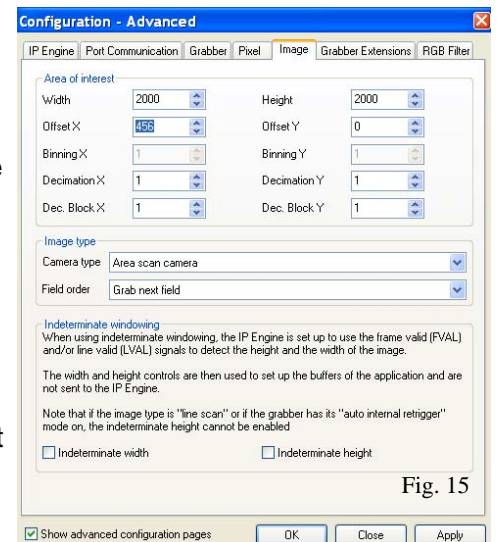

Fig. 15
- Open “Image” tab, the image size for GD-155000 is 2456 x 2058 but can be changed to smaller numbers for display limitation of PC. When smaller width is selected, Offset X must have the difference from 2456 to set number (example: for 2000 x 2000, offset X is 456). Note: The horizontal number must be increment of 4. For the quick test purpose, you can stay with the default value until you see image capturing and ready for configuration changes. (Fig. 15)